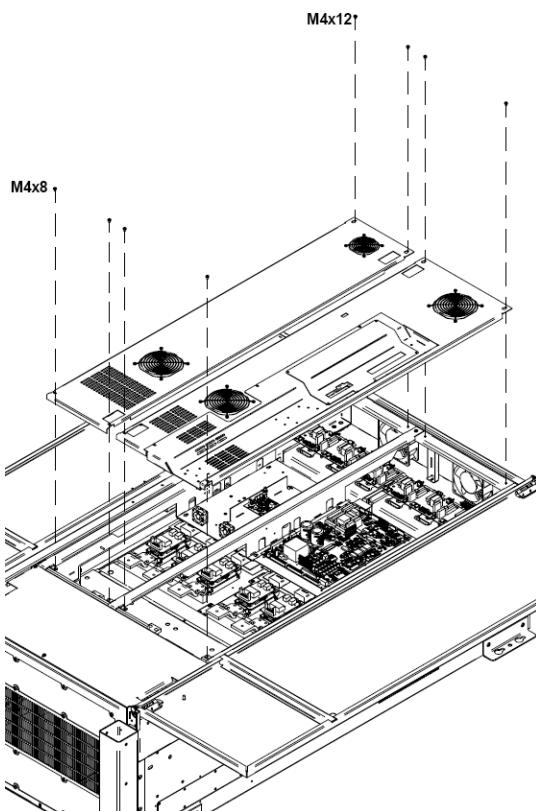

Figure 5.2 Disassembly of the covers
- 1) Place the covers on the chassis as it is shown in *figure 5.2*.